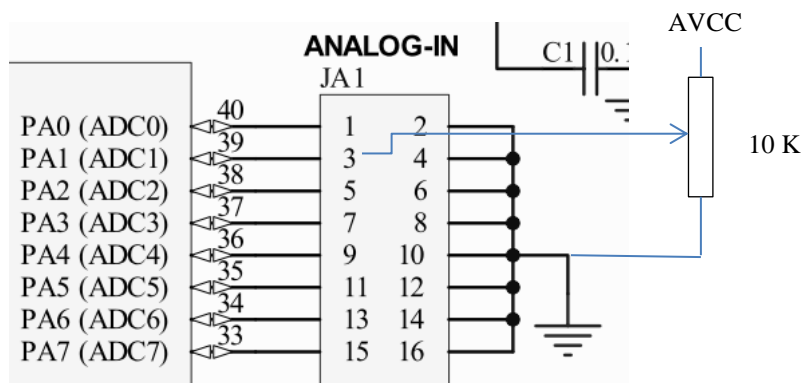

Figure 23 – Connection of a variable input on Ch(1) potentiometer – See page 2 of the CL2bm1 schematic in the repository.
3.b.5.3 Real connection of Analog inputs: As an example, Figure 23 shows a variable input test setup using a 10 kOhm variable resistor or potentiometer, connected to a clean analog +5Vdc source or AVCC, and to Ch(1) input. [Caution must be taken not to exceed 5 V on any input]. This setup will show Ch(1) readings the terminal program from 0 (0V) to 1023 (near 5V).